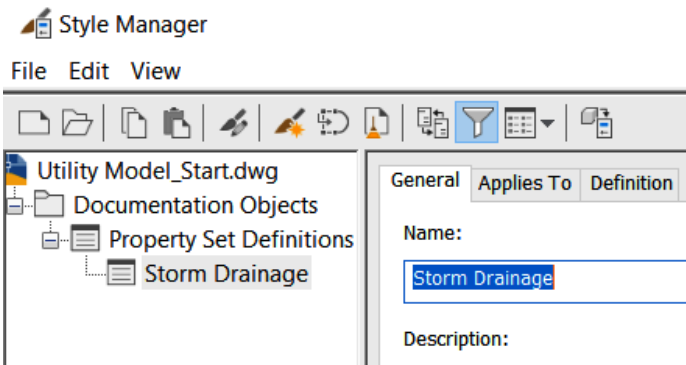

Figure 10.4 – Naming our new property set
3. Once created, a new property set will be created with the **General** tab activated. Here, we'll want to give it a new name; in this case, we'll call it **Storm Drainage** (as shown in *Figure 10.4*).